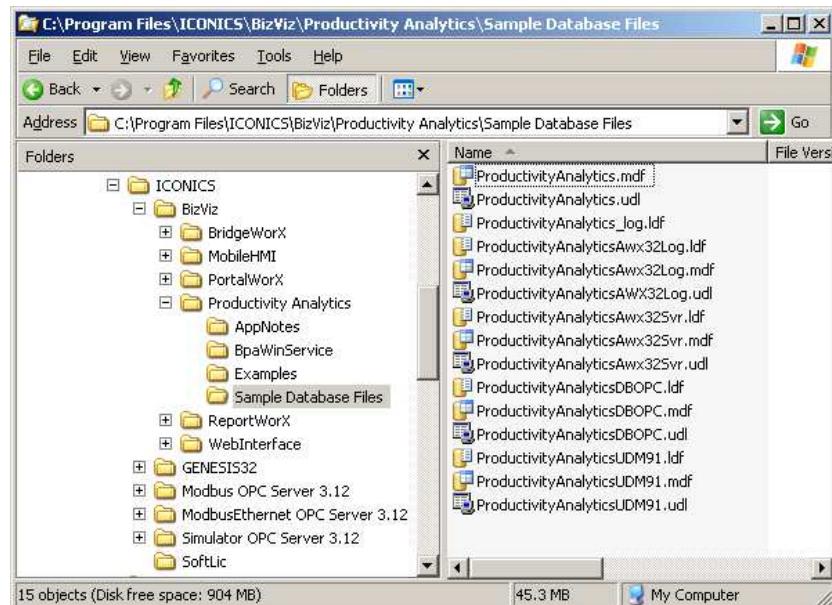

Figure L1.18 - Sample Database Files
3. Open the Sample Database Files folder and make sure you have all 15 files, as shown in Figure L1.18.